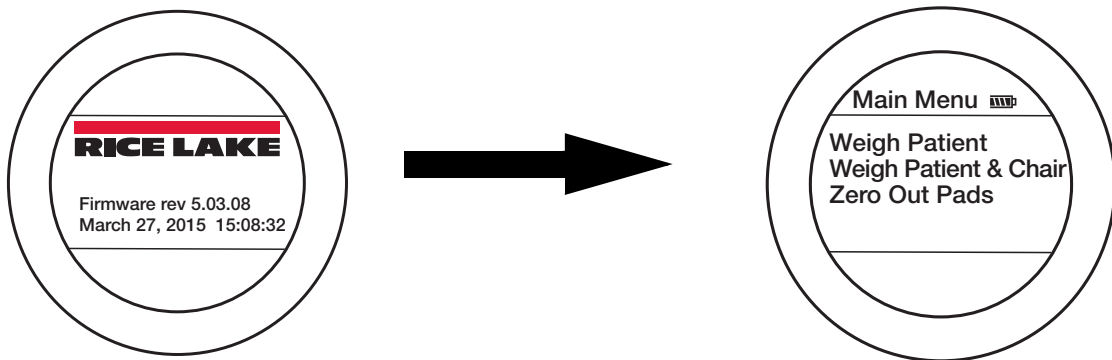

Figure 3-1. Startup Display to Main Menu Display
11. Select *Weigh Patient* from the main menu (Figure 3-1). The display will show *Acquiring Data*. During this time the display screen will dim for approximately five seconds and the scale pads will be lit green. Patient and wheelchair weight will then be displayed.